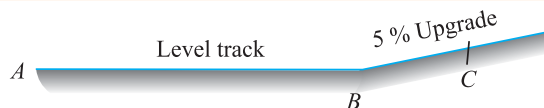

Fig. 24.7.
**Example 24.23.** A train of wagons is first pulled on a level track from A to B and then up a 5% upgrade as shown in Fig. 24.7.